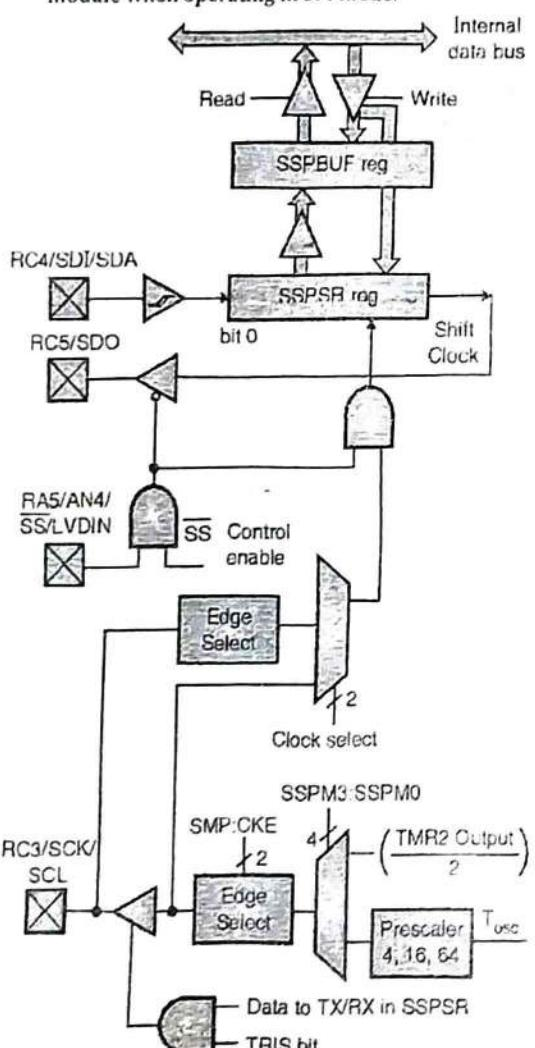

Fig. 9.10.2 : MSSP block diagram (SPITM mode)
- o Slave Select (SS) = RA5/AN4/M/LVDIN
- Fig. 9.10.2 shows the block diagram of the MSSP module when operating in SPI mode.